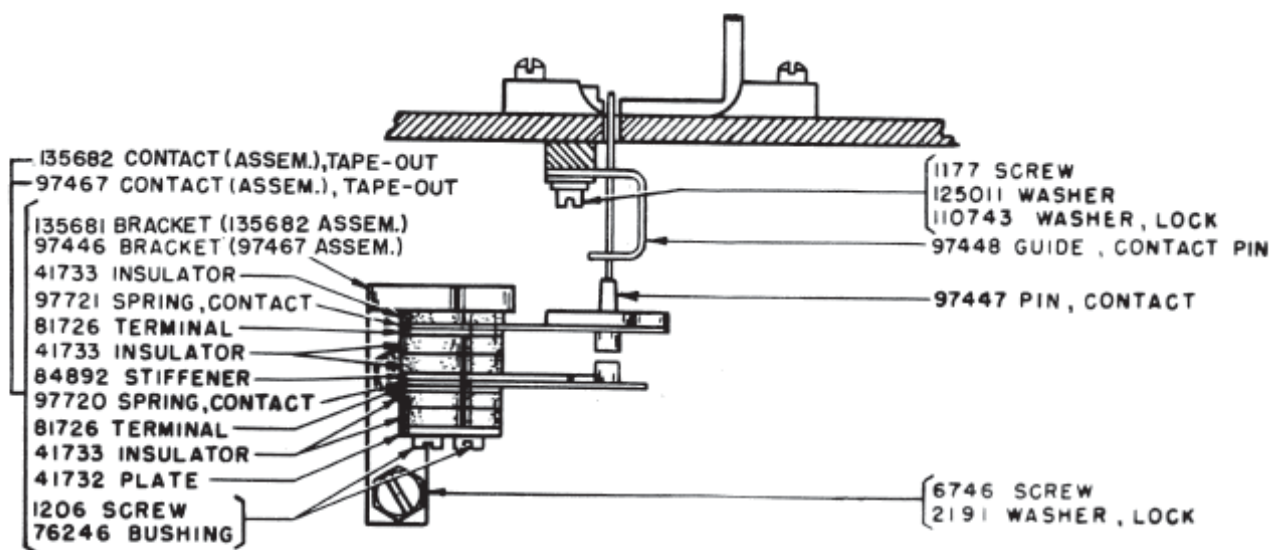
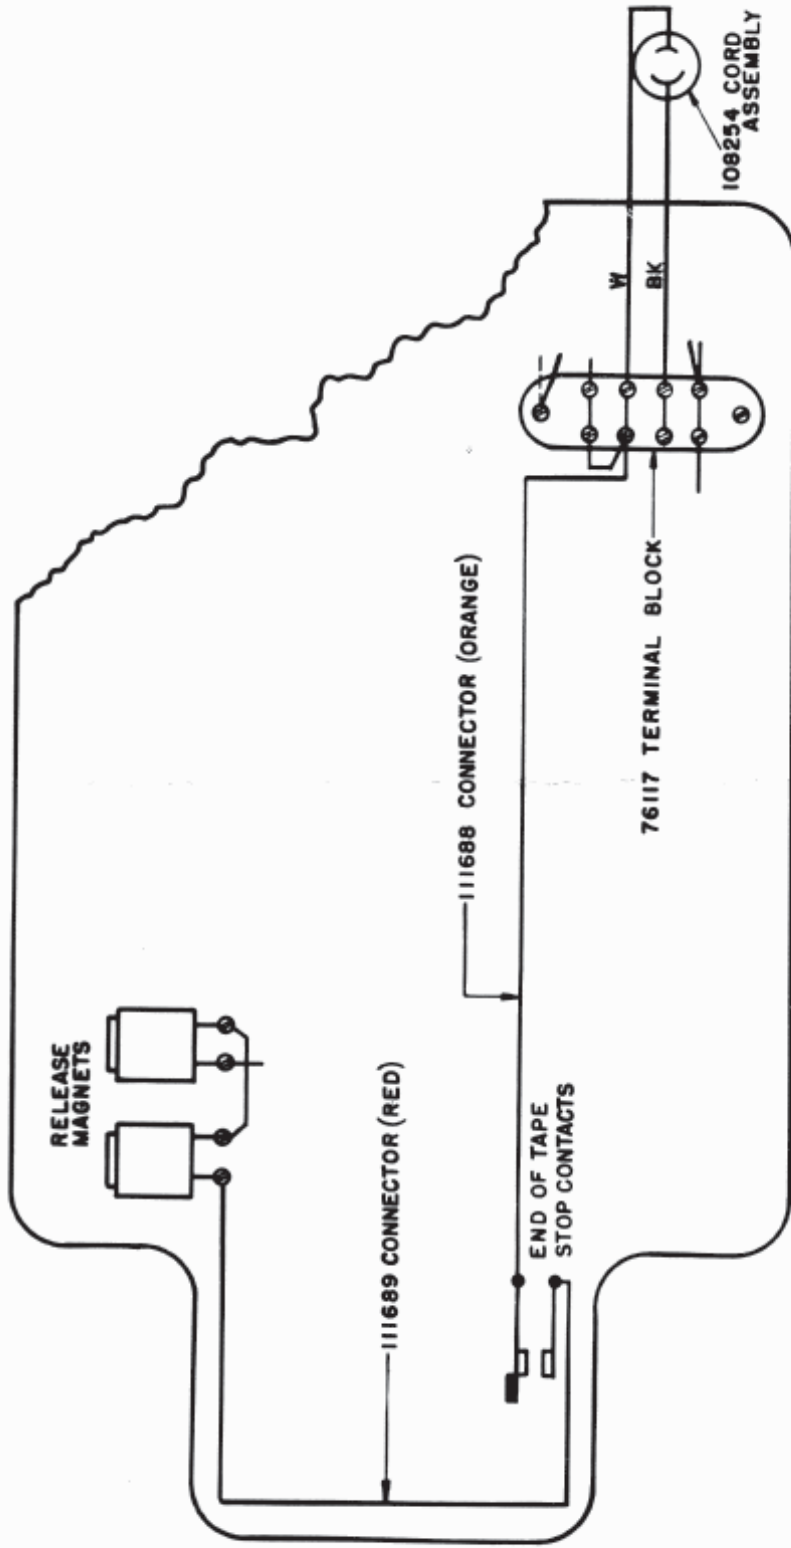

FIGURE 1
FIGURE 3
(on 108254 cord assembly) to the terminal on the right side of the 76117 terminal block as shown in Figure 3. Connect the other terminal of the wire on the 108254 cord assembly to the terminal on the right side of the 76117 terminal block as shown in Figure 3.
(3) Remount the 80460 cable clamp to hold the 104663 power cord and the 108254 cord assembly, leaving some slack between the cable clamp and the terminal block. Tighten the screws.
(4) Connect one end of the 111688 connector wire (Orange) to the left terminal of the 76117 terminal block as shown in Figure 3. Lay this wire along-side of the other cable, so that it does not interfere with moving parts and connect other end to the top (swinger) contact spring terminal (on end-of-tape contact assembly) as shown in Figure 3 and solder in place. Connect one end of the 111689 connector wire (Red) to the terminal of the release magnet coil as shown in Figure 1. Thread the other end of the wire down through hole in top of base casting and route wire along-side of other cables, so that it does not interfere with moving parts and connect to the lower (stationary) contact spring terminal (on end-of-tape contact assembly) as shown in Figure 3 and solder in place.